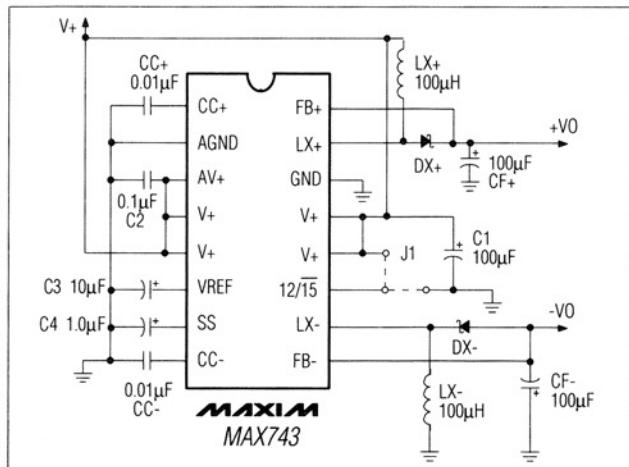
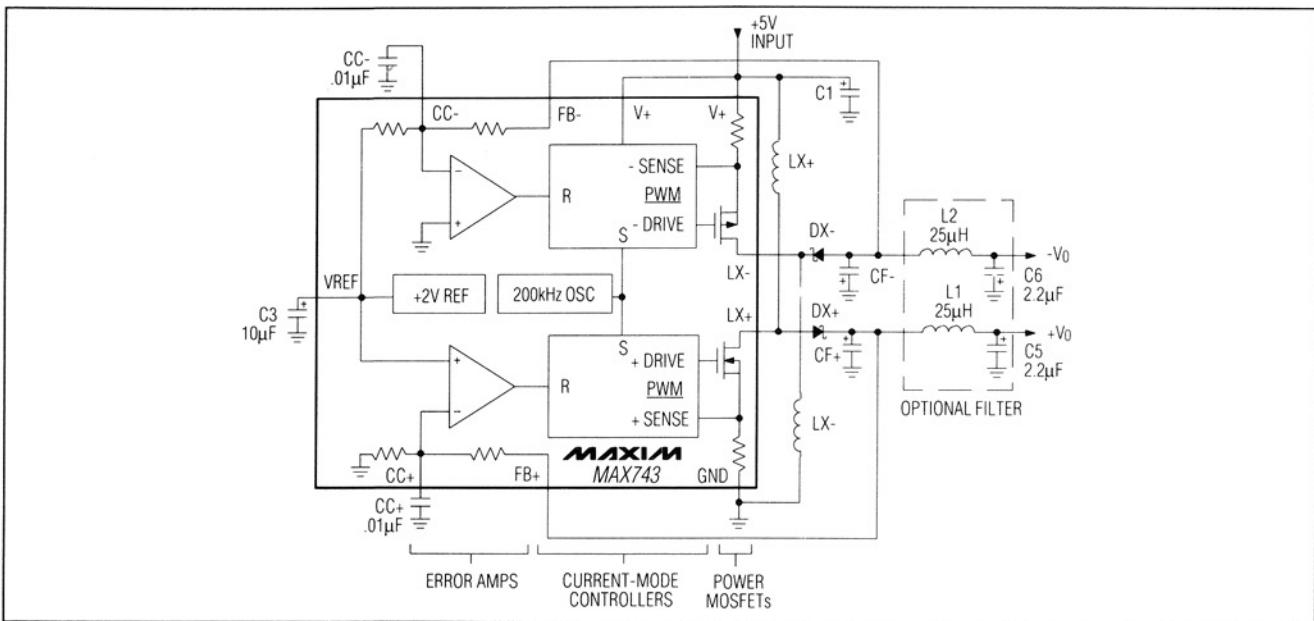
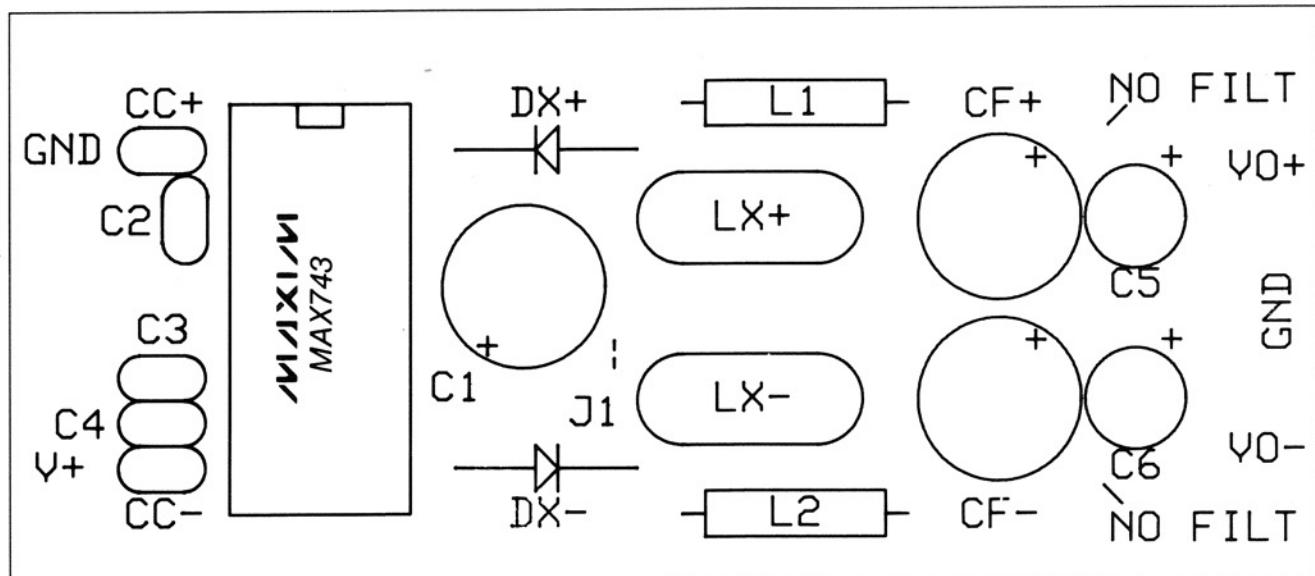

Figure 1. Basic Application Circuit
Figure 4. Functional Diagram with Optional Pi Filter
Figure 7. Component Placement Diagram for PC Layout of Figure 6
(Circuit of Figure 1,  $+4.5V < V+ < +5.5V$ , Note1.)
(Circuit of Figure 1,  $V+ = +5.0V$ ,  $12/15$  pin = 0V,  $I_{LOAD} = 0$ ,  $TA = T_{MIN} \text{ to } T_{MAX}$ , unless otherwise noted.)
The circuit in Figure 1 has been tested at all line, load, output current, and temperature limits. Refer to the Electrical Characteristics table for guaranteed in-circuit specifications. Successful use of this circuit requires no component calculations.
The MAX743EVKIT Evaluation Kit demonstrates the output capabilities and noise performance of the MAX743 standard application circuit (Figure 1). The kit includes main switching components identical to those found in the high-volume production kit described on page 11 (MAX743CPEKIT). With a few quick modifications, the circuit can also serve as a low-noise test bed to evaluate other components, such as the miniature MPP toroid inductor of Figure 5. The kit includes optional Pi filters shown in the Functional Diagram (Figure 4), which reduce output noise to less than 2mVp-p.
**1. Build Circuit.** Assemble the PC board according to the component placement diagram of Figure 7 and the schematic of Figure 4. 3 resistors will be left over (and used for testing). The extra holes near LX and CF are options for nonstandard component sizes. Do not install jumper, J1, or C4.